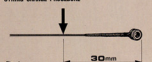

Fig. 1
- Unscrew and remove nut clamp pressure pad (1).
- Loosen string stopper bolt (2) and remove string.
- Cut the ball end off of new string above winding as in Fig. 1.